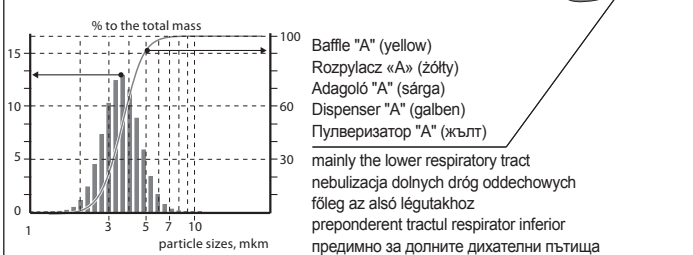

fig.3 | rys.3 | 3. ábra | fig.3 | рис.3
- Set the desired baffle inside the nebulizer as baffle «B» (Blue), which is effective to affect the entire respiratory tract. For a more effective impact medicines on the upper respiratory tract, set, instead of the blue baffle, red baffle «C». For a more effective impact on the lower respiratory tract – baffle «A» yellow color, which consists of two parts (Fig.2b, figures showing the order of assembly). Graphics of the differential particle size distribution by mass for different baffles are shown in Fig. 3 (measured by Little Doctor International (S) Pte. Ltd.).